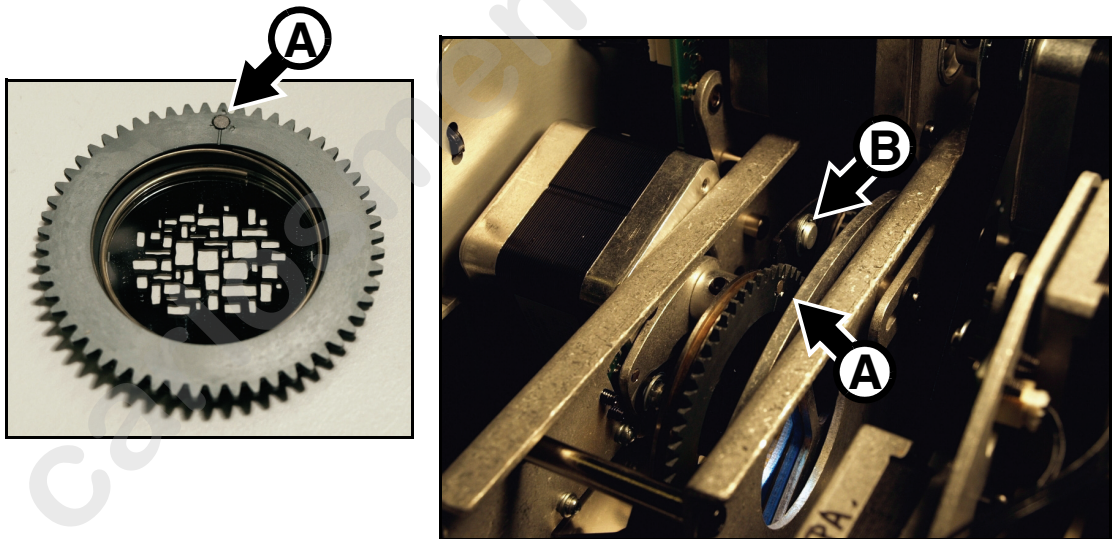

Figure 18: Goboholder position for replacement
4. See Figure 18. Rotate the goboholder until its magnet **A** lines up with a reference point that you choose on the module frame (**B** for example). Remove and insert any gobos you replace one by one, with the goboholder magnets lined up with your reference point, and avoid rotating the gobo wheel while a gobo is removed. This will keep gobos in the orientation they were designed for and avoid the need to reprogram the controller because a gobo orientation has changed during service.